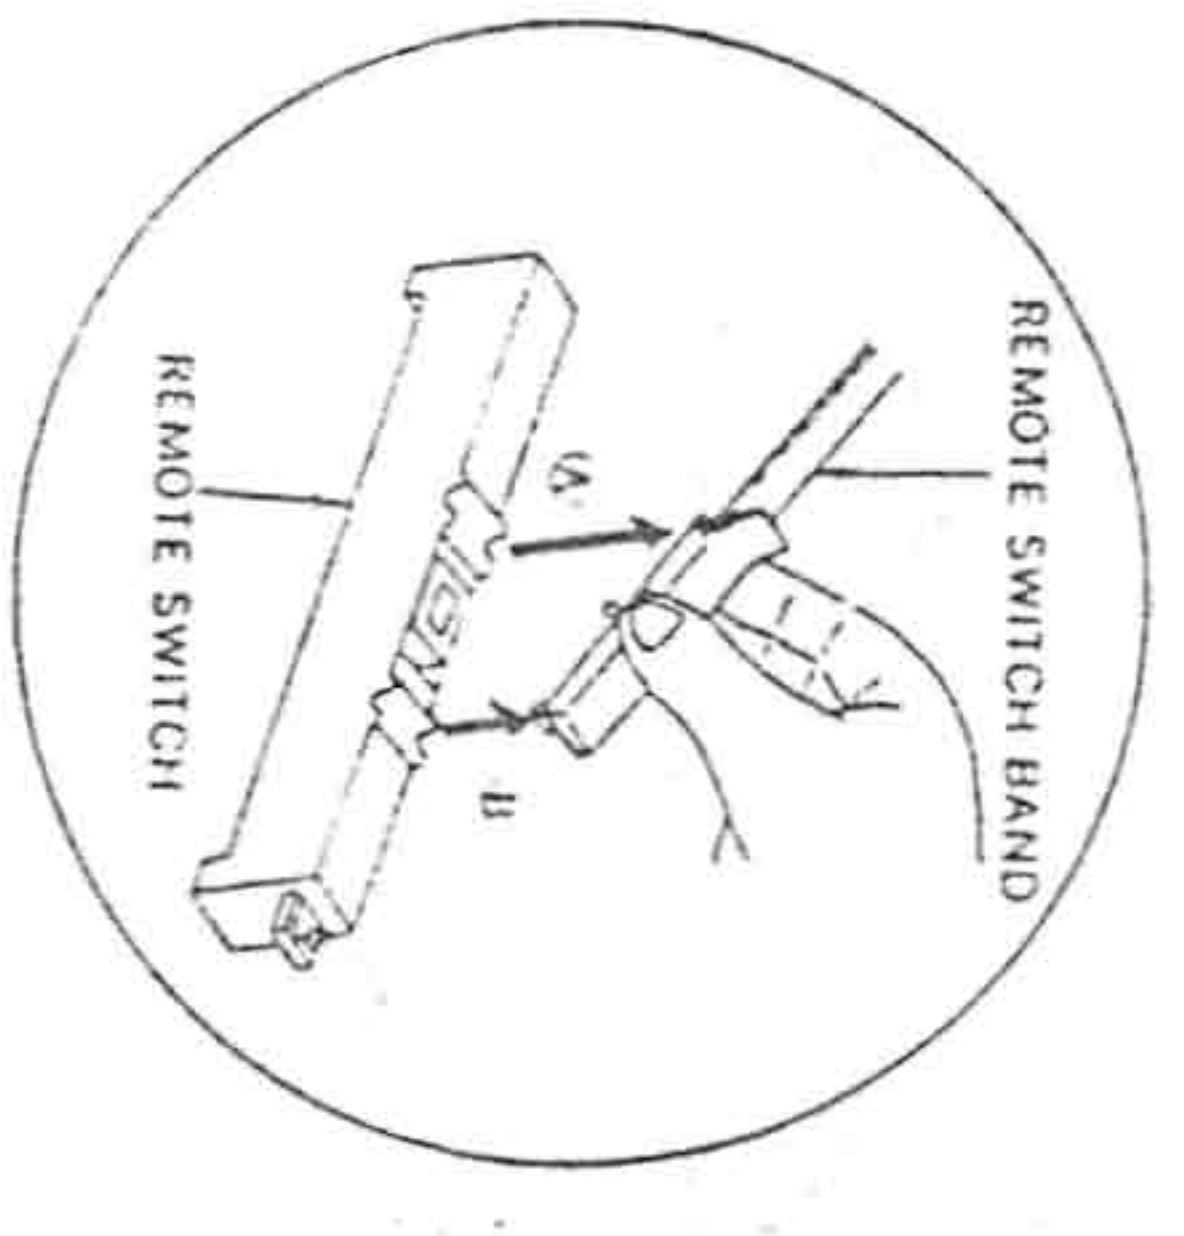

Fig. 3
2. When removing, remove (A) in figure 3 first.
3. When attaching, attach (B) in figure 3 first, and then install (A).